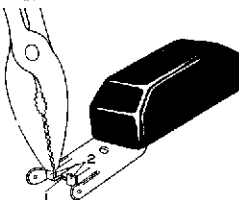

Fig 5.80 Float Tab 11336
To obtain a correct clearance, bend the tab at (1) in figure 5.80.
To obtain the correct clearance, bend the tabs at (2) in Figure 5.80.